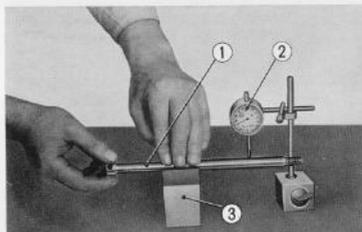

Fig. 4.89 Measuring bend of axle
2. Check the front axle for wear and bend. (Fig. 4.89)